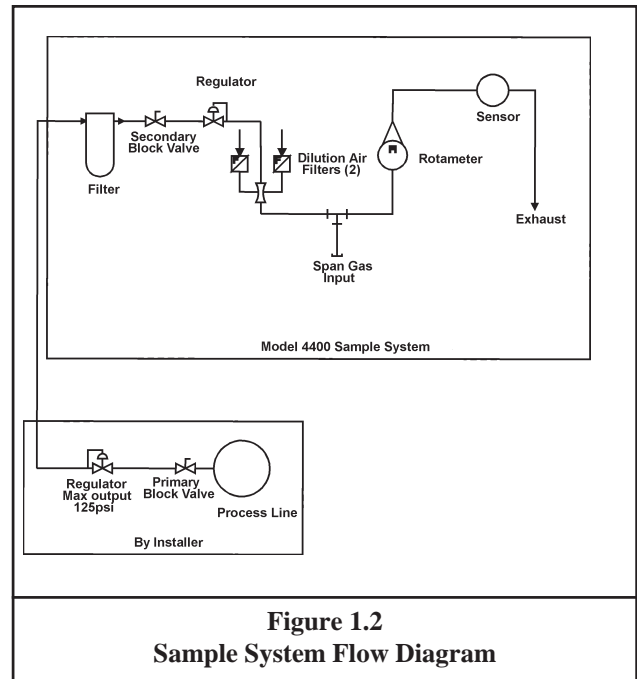

Figure 1.2
1.2.1 Sample Flow Control (Figure 1.2)